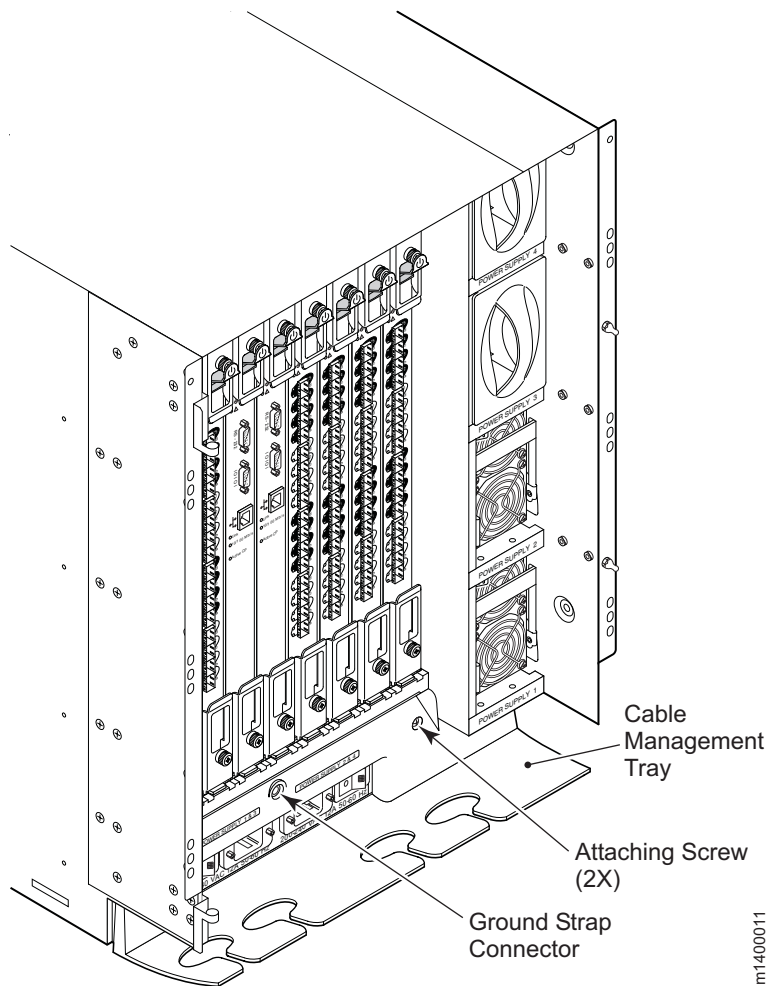

Figure 36. Cable management tray
- The cable management tray is attached to the bottom of the chassis (see Figure 36 on page 52) and can be used to route the power cables and other cables down below the chassis or out the sides of the chassis. Routing the cables down through the holes in the management tray requires minimum of 3U (rack units) below the switch.
Use this procedure to replace the cable management tray (see Figure 36). The M14 can continue to operate during the installation.
3. Unscrew the two screws holding the tray to the chassis and save for reuse. See Figure 36 on page 52 for the general location and Figure 37 for a more detailed view.
1. Orient the tray. See Figure 36 on page 52 and Figure 37.
Attention: Wear a grounded ESD strap when handling a 16–port card. The chassis has a grounding connection above the power connectors. See Figure 36 on page 52.